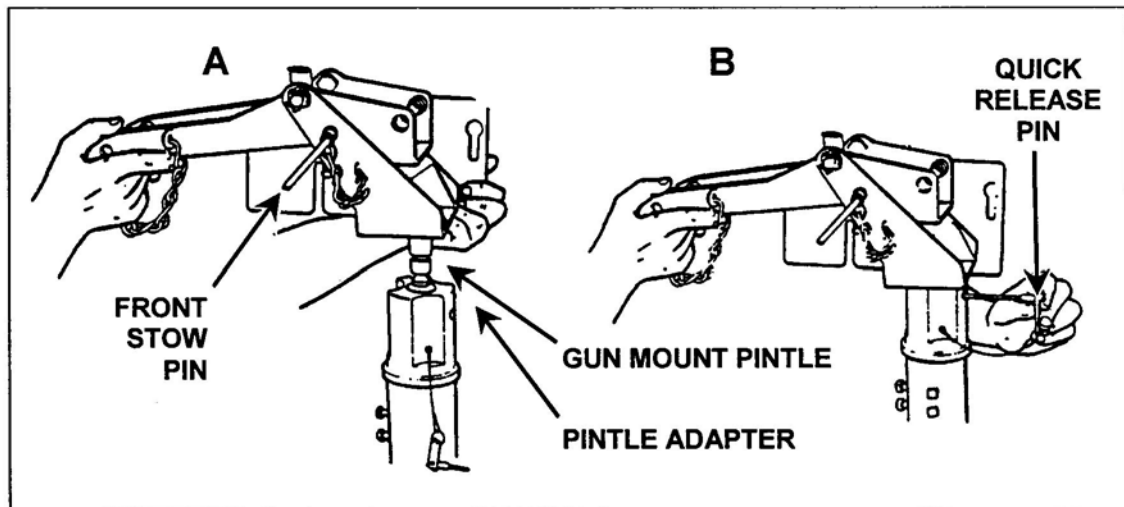

Figure 4. Installation of the MK64 gun mount.
- 2. Mount the MK64 gun mount (Figure 4).